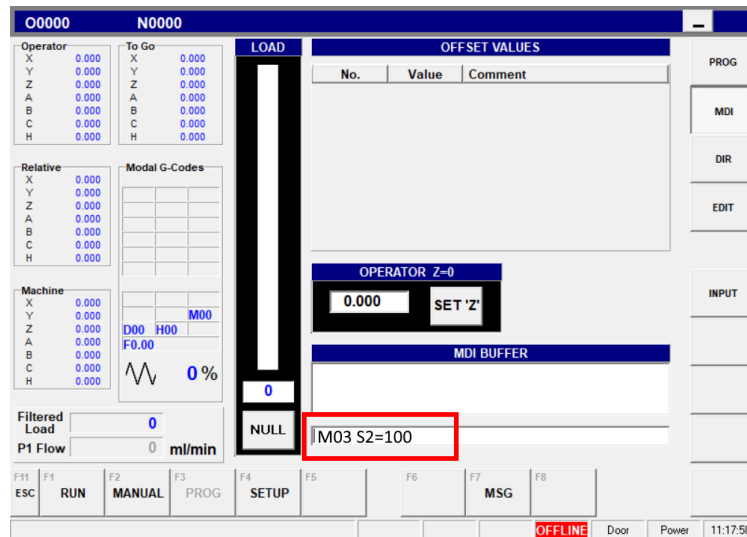

Figure 7 - MDI command line
11. Type "M03 S2=100" at the "MDI" command line and then press "Enter". See *Figure 7 - MDI command line*.